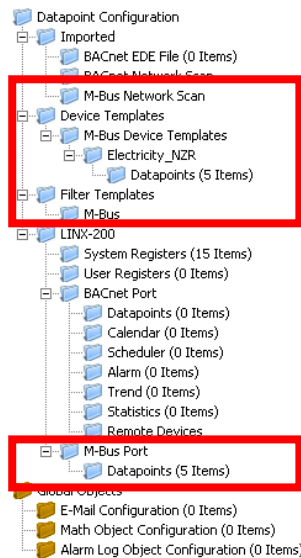

Figure 123: Data Point Manager Dialog with M-Bus folder list
- The folder list (Figure 123)